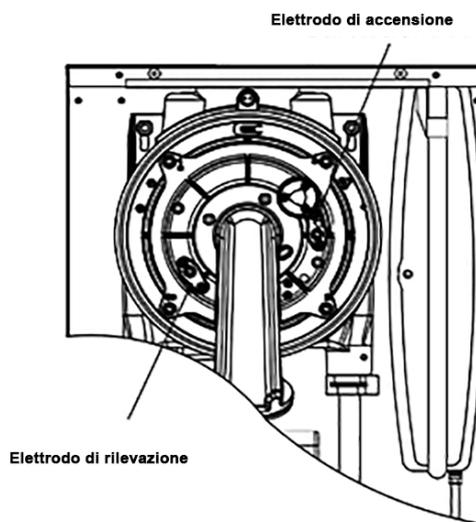

Fig. 30
6.2 SOSTITUZIONE ELETTRODI (fig. 30)